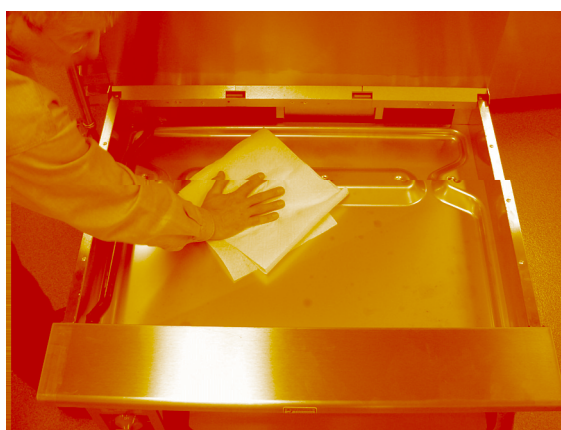

Fig. 18
5. Clean the entire 12 quart basin area with warm water, mild soap and a soft cloth. Stubborn soils may be removed using a nylon scratch pad and mild detergent. Rinse and dry all areas thoroughly (Fig. 18).